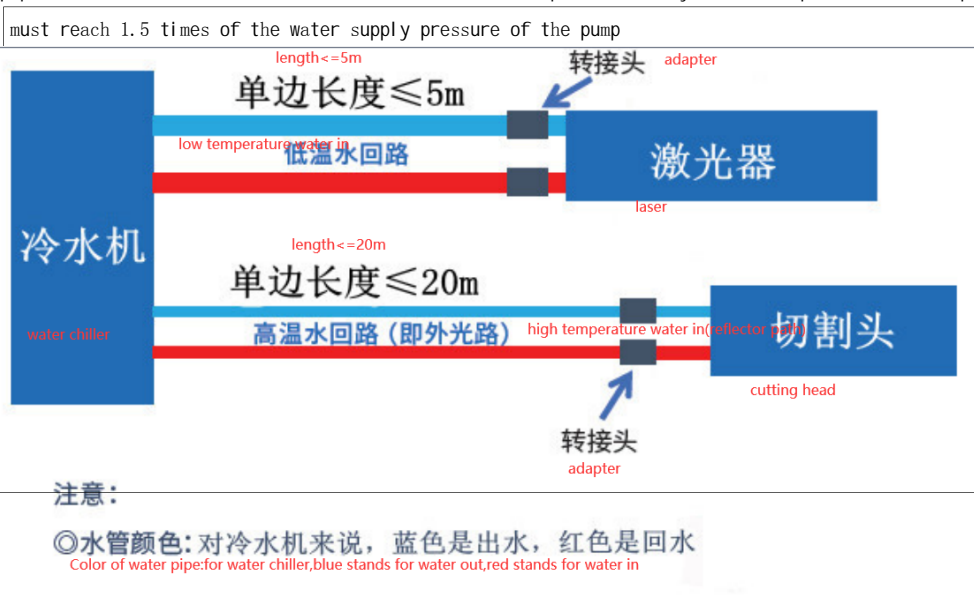

Fig6 Schematic diagram of connection between chiller and laser
- Pipeline connection: the connection method of the chiller and the laser, as shown in Figure 6, the inner diameter of the pipe should not be smaller than the diameter of the water inlet and outlet of the chiller. If the inner diameter of the pipe is smaller than the requirement, the chiller manufacturer must agree.